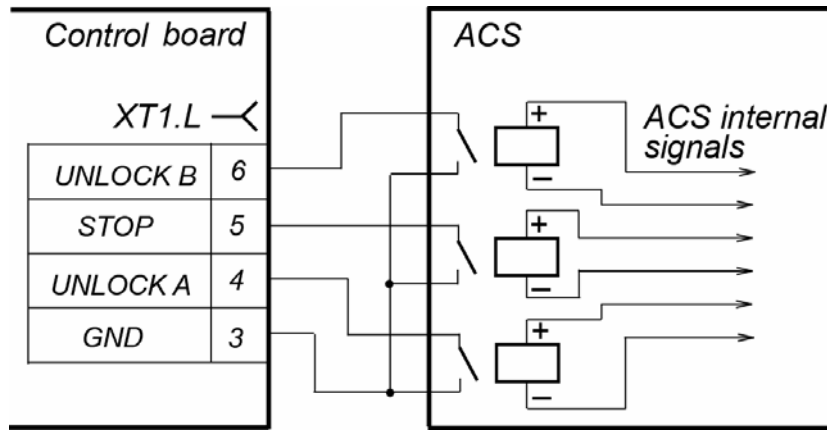

Figure 7. ACS control element — normally open relay contact
5.4.2 The turnstile is operated by input of a low-level signal to the *XT1.L* connector block contacts *Unlock A*, *Stop* and *Unlock B* relatively to the *GND* contact. As the control element there can be used a normally open relay contact or a circuit with open collector output at that. At the emergency the turnstile control is carried out by removing of a low-level signal from the *Fire Alarm* contact relatively to the *GND* contact. As the control element there can be used a normally closed relay contact or a circuit with open collector output at that (Fig. 7 and 8).